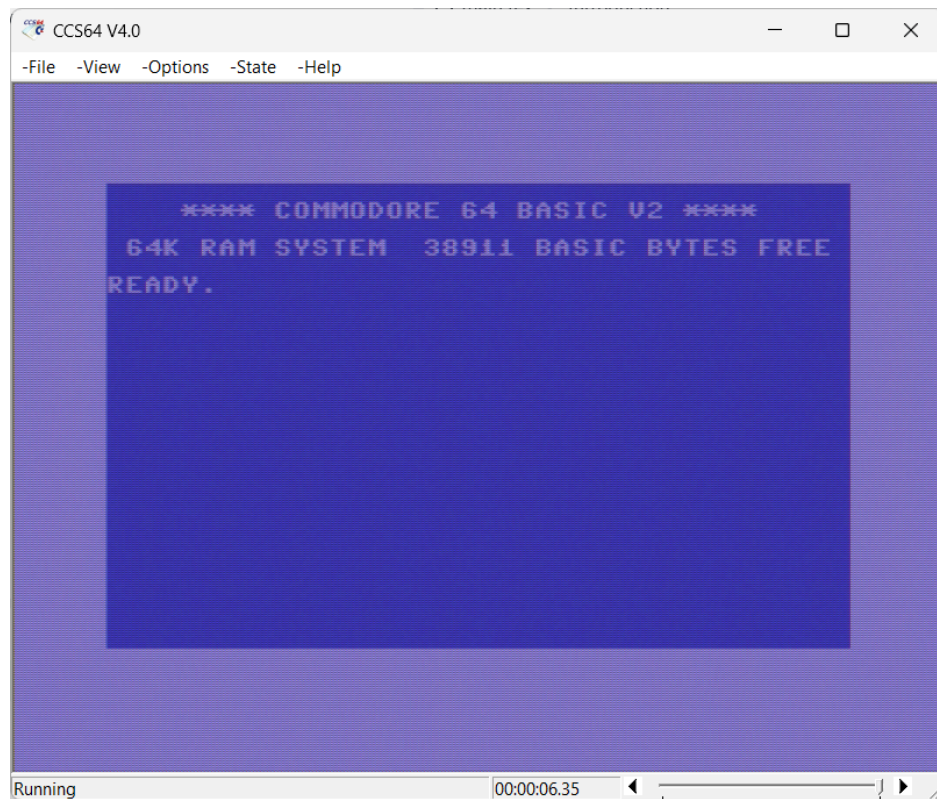

Figure 2.1: CCS64 running in windowed mode.
1. Start CCS64. After starting the program executable, the emulator typically starts up in windowed mode and starts emulating the Commodore 64 including its builtin operating system (KERNAL) and the associated BASIC interpreter, see Figure 2.1.